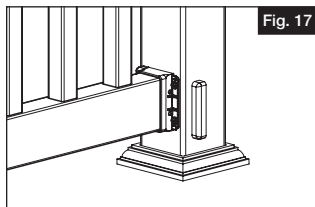

Fig. 17
- Snap bottom bracket covers snugly onto bottom brackets (Fig 17).